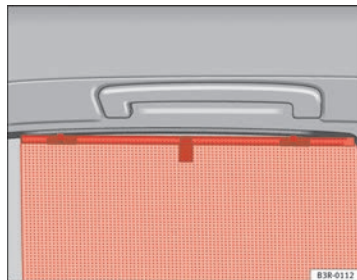

Fig. 100 Sun blind extended to cover rear side window
- Pull out the blind and hook it into the hooks at the top of the door frame ⇒ fig. 100. ■